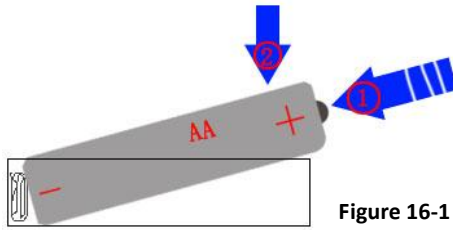

Figure 16-1
2. Insert the batteries into the Rear panel Assembly properly. As shown in **Figure 16-1** and **16-2**: